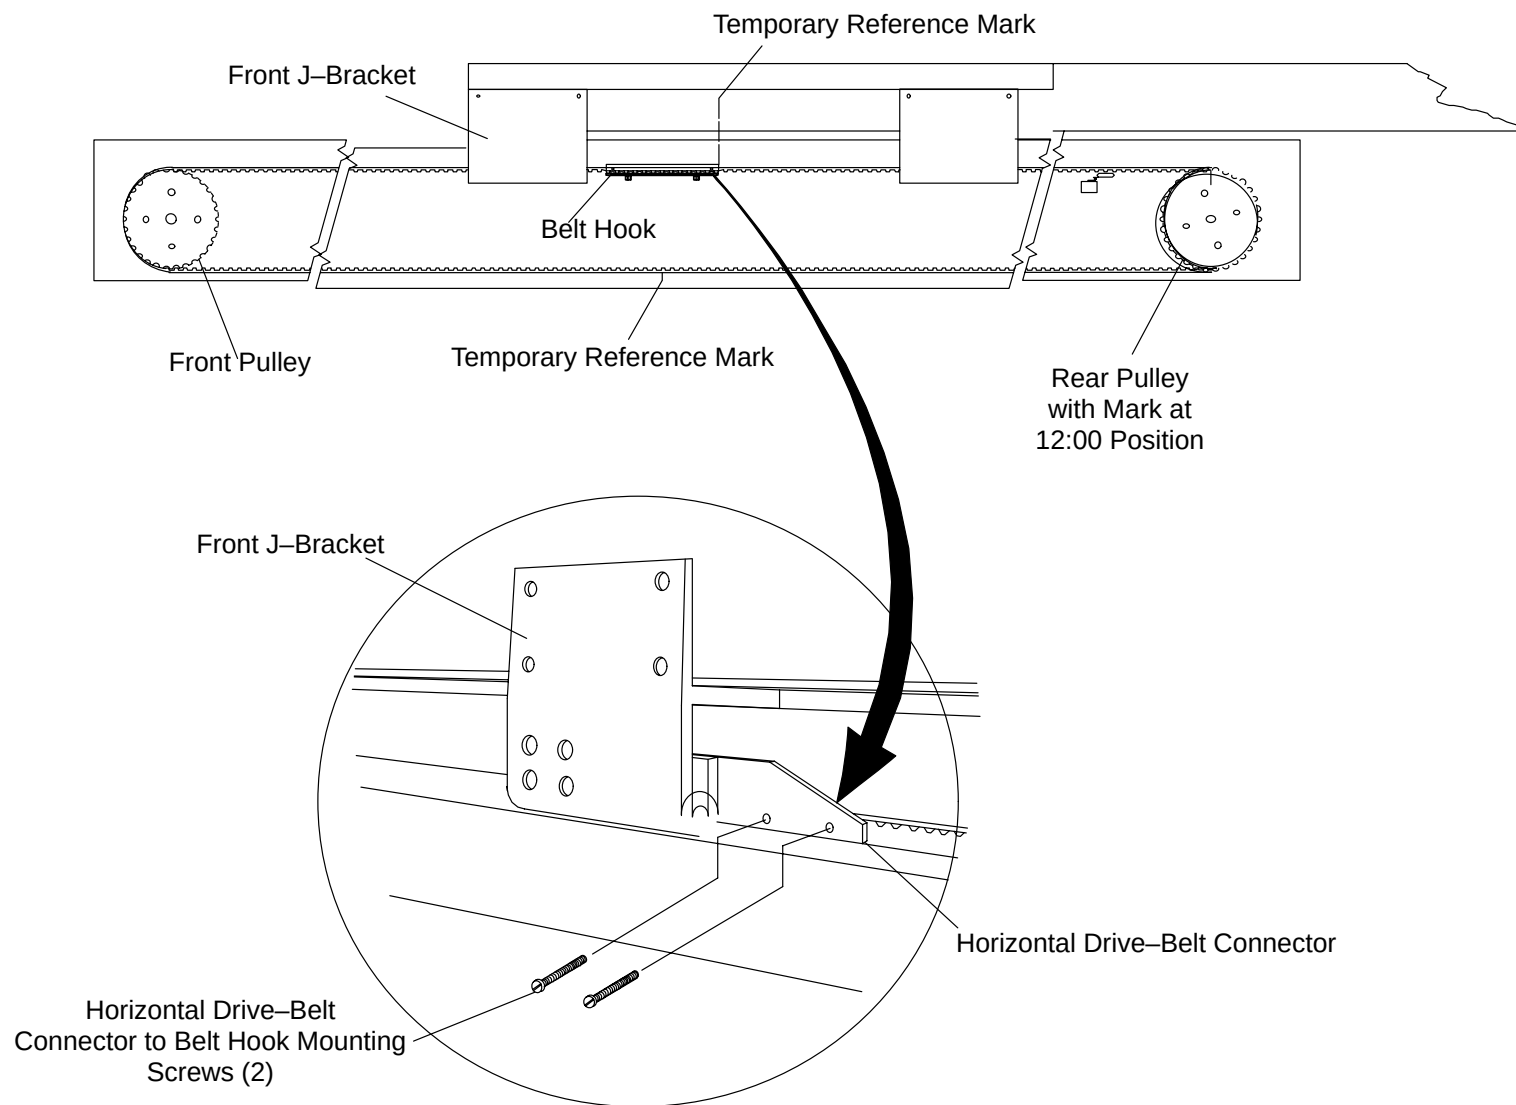

FIGURE 200 HORIZONTAL DRIVE-BELT ASSEMBLY
5. Manually move the Carbon Top to position the Belt Hook approximately midway between the Belt Pulleys. See Figure 200.
6. Place a temporary reference mark on the Sub-Frame in line with the front edge of the Belt Hook. Place a mark on the front Pulley in the 12:00 position. Refer to Figure 200.
8. Disconnect the Belt Hook from the Horizontal Drive–Belt Connector by removing the two Mounting screws and Washers. Refer to Figure 200.